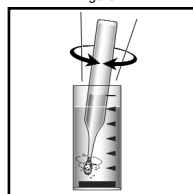

Figure 2
2. Dissolve the crystals on the tip of the ampoule in the sample by stirring the sample briefly with the ampoule tip (fig. 2).